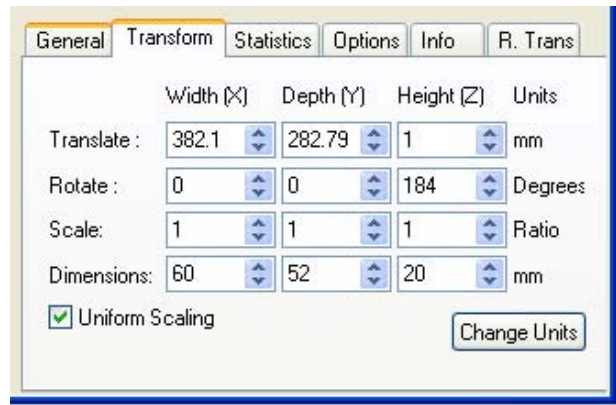
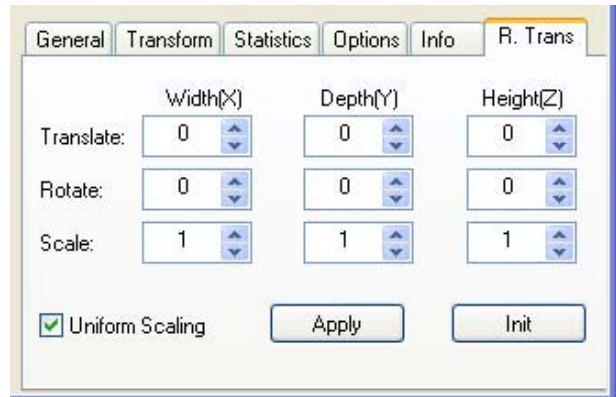

Figure 5-33: Object properties dialog box, *Transform* tab
Figure 5-34: Object properties dialog box, *R. Trans* tab
2. Display the *Transform* tab or the *R. Trans.* tab of the object properties dialog box (see figure 5-33 on page 21 and figure 5-34 on page 21).